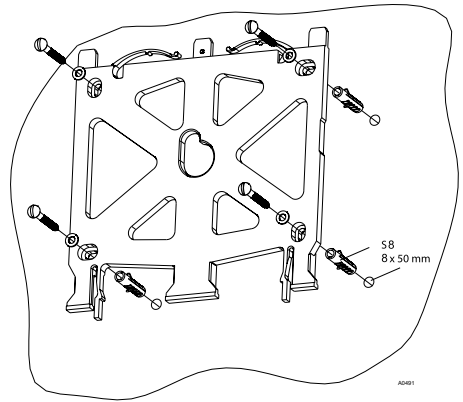

Fig. 8: Fitting the wall bracket
5. ➤ Screw the wall bracket into position using the washers, see Fig. 8